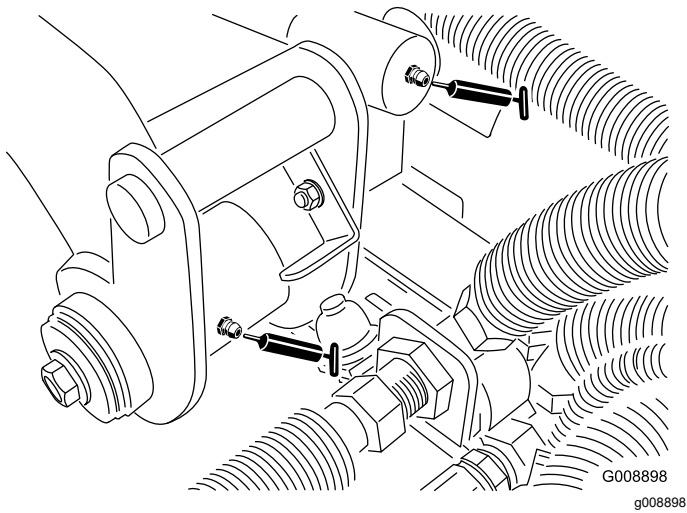

Figure 49
- Rear lift arm pivot and lift cylinder (2) (Figure 49)